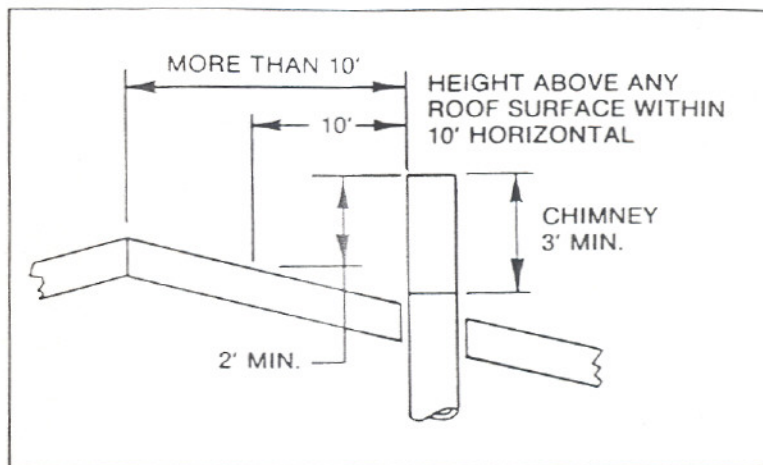

Figure 10
2. If the horizontal distance from the side of the chimney to the peak of the roof is more than 10 feet, a chimney height reference point is established on the surface of the roof a distance of 10 feet from the center of the chimney in a horizontal plane. The top of the chimney must be at least 2 feet above this reference point, but never less than 3 feet in height above the highest point where it passes through the roof. See Figure 10.